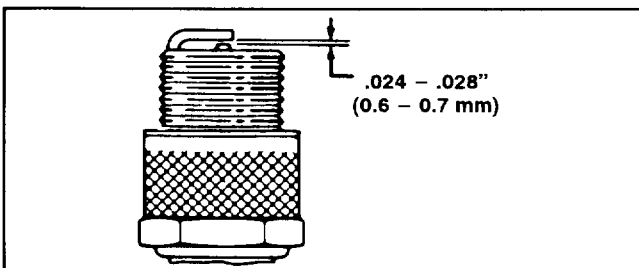

Figure 17
## REPLACING SPARK PLUG (Fig. 17)
3. Set air gap at .024 – .028" (0.6 – 0.7 mm) as shown in Figure 17. Install correctly gapped spark plug and gasket seal. Tighten plug firmly to 9 ft–lb (1.2 Kg–m).